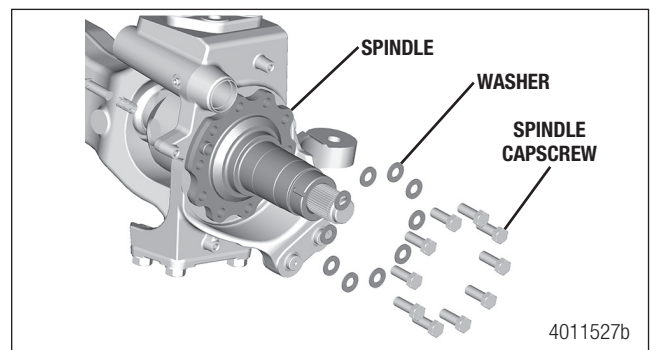

Figure 8.19
6. Install the 10 capscrews and washers and tighten to specification. Refer to Section 12 Specifications on page 77. Figure 8.19.